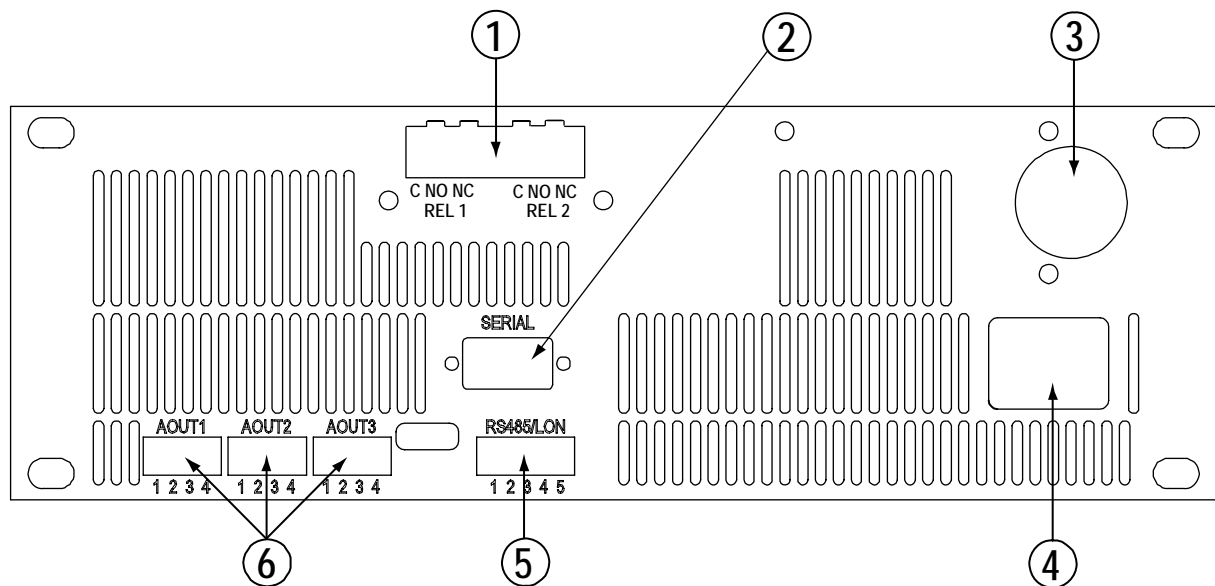

Figure 21 DMI500 User Interface Unit Back Panel (Same as Figure 3)
The following numbers refer to Figure 21 above:
1. Connect the analog output signal cable connector to the connector, see Figure 21 on page 73.